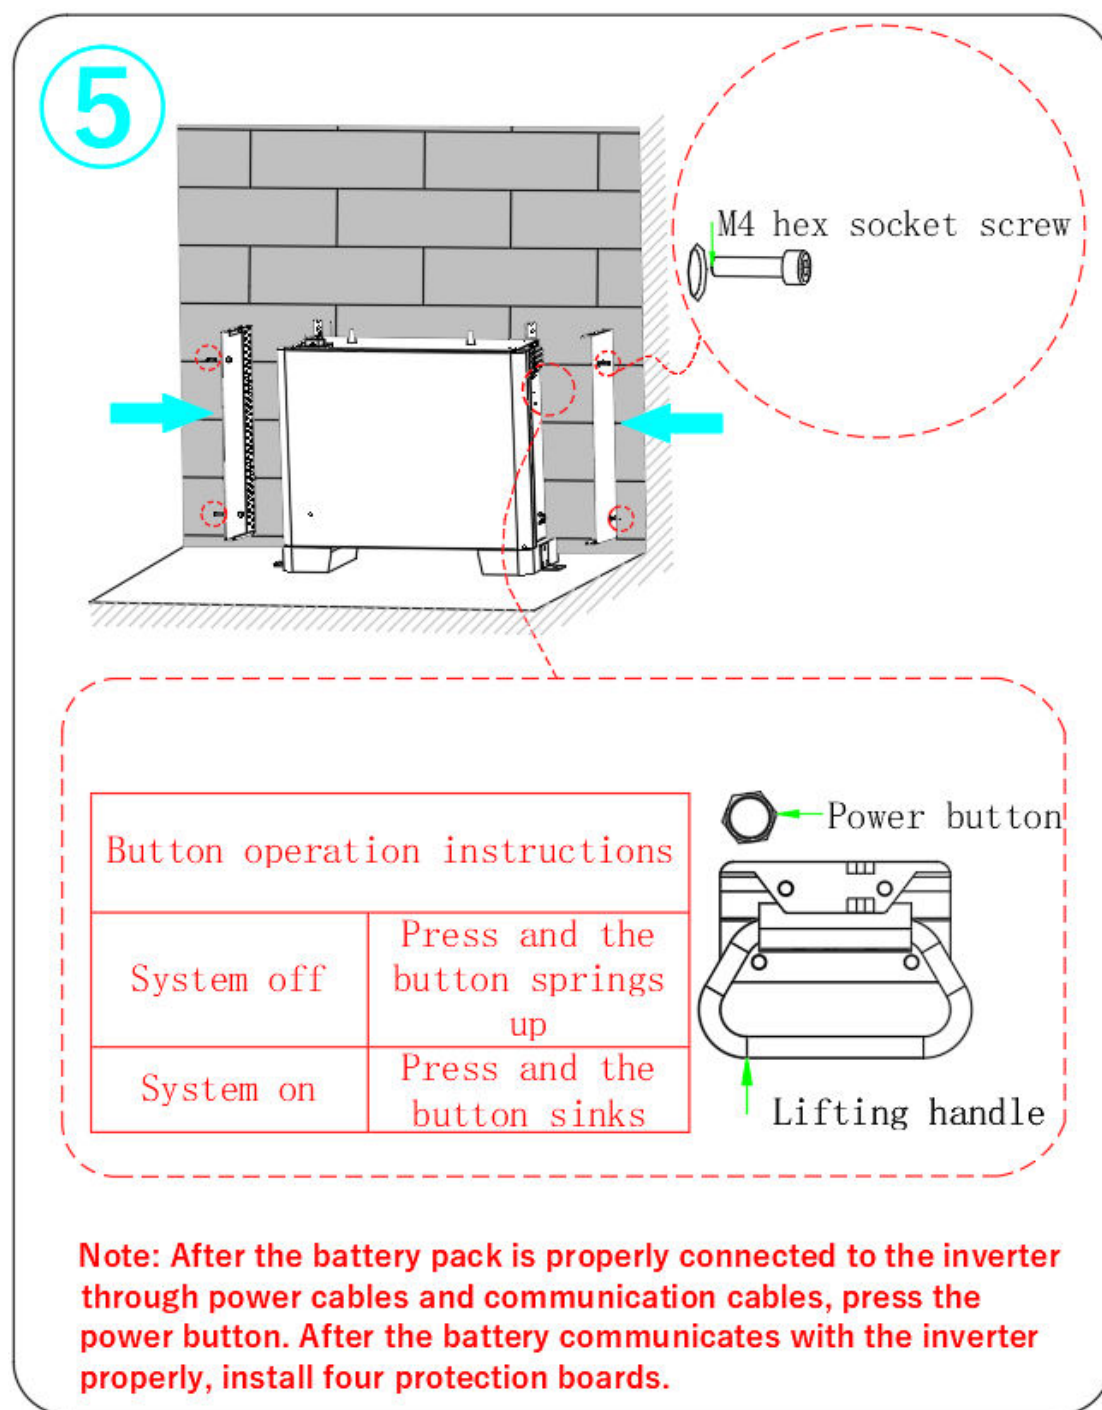

FIGURE 3.6: STEP5
- Step 5: After the battery pack is properly connected to the inverter through power cables and communication cables, press the power button. After the battery communicates with the inverter properly, install the protection boards of the three battery packs one by one as shown in Figure 3.6.